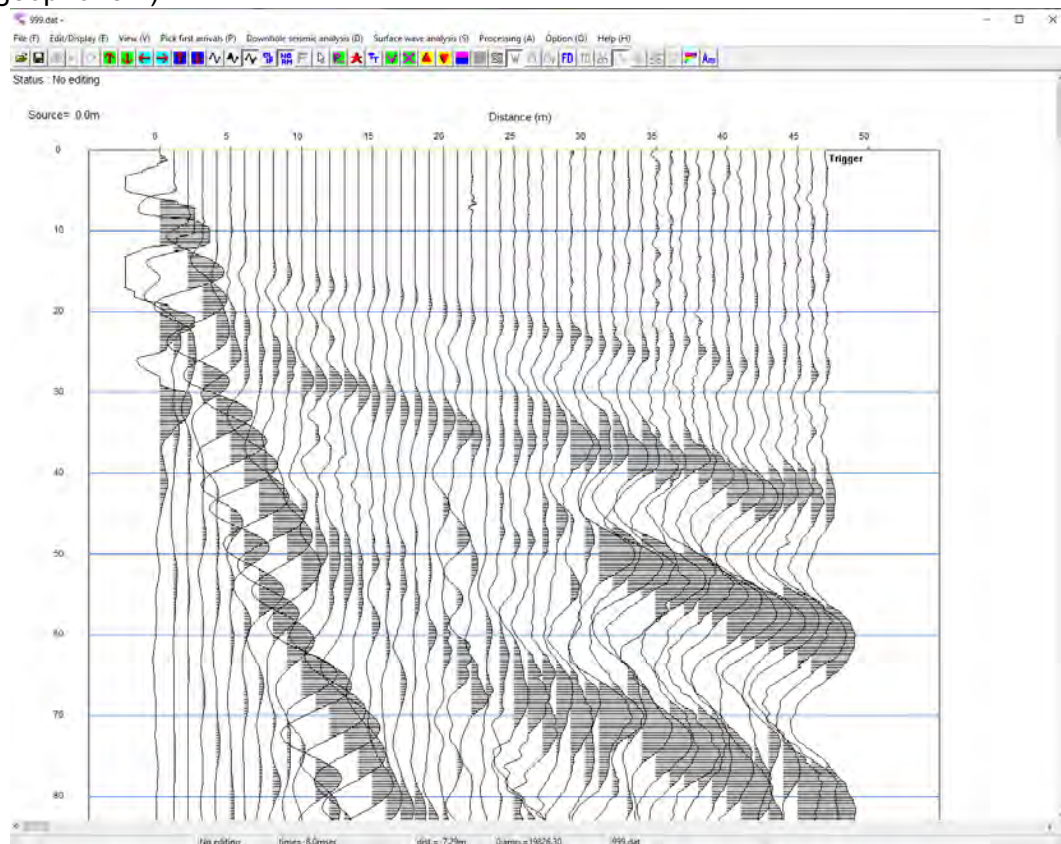

Figure 7
- c. You should now have a display that looks like the display below in Figure 7 with the refraction first arrivals clearly following a linear trend dipping to the right (this will vary depending on the shot point of the dataset you chose. In this case, the shot point is at geophone 1).